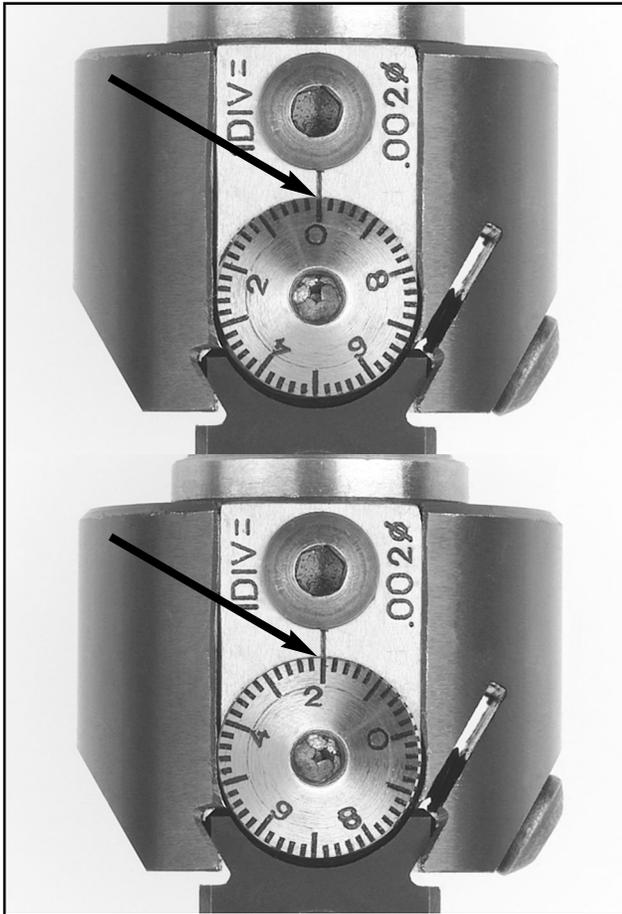

Figure 3. Example of dial indexing.
1. The dial on this precision boring head reads 0.001" per index mark and 0.050" per revolution. Note—*This means if a 1.000" hole has been bored with the dial at "0", the diameter of the bored hole will be 1.020" with the dial at "2" (Figure 3).*